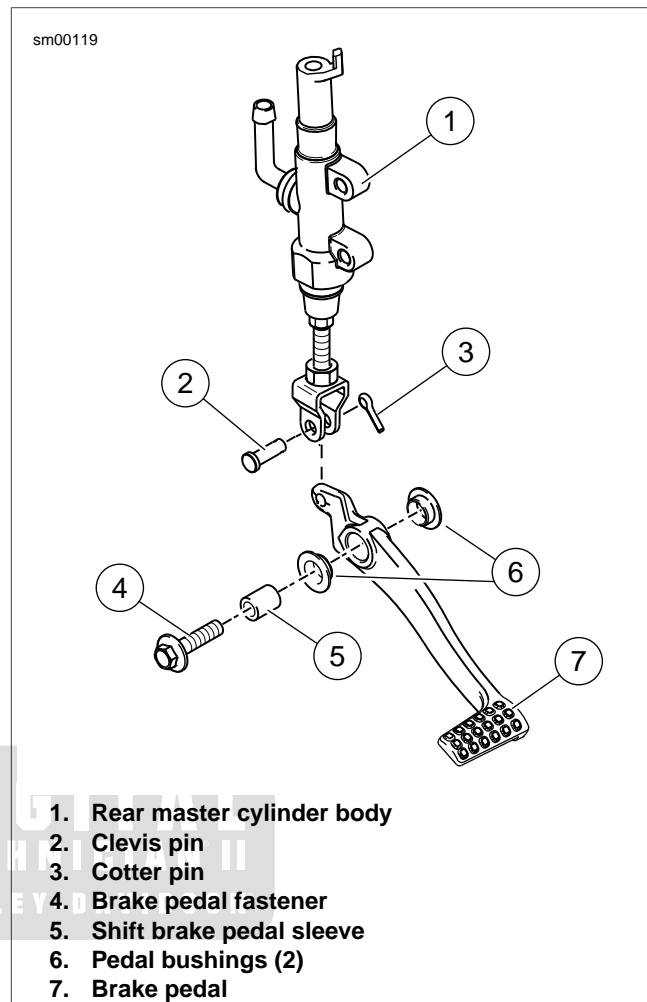

Figure 2-61. Brake Pedal Assembly
1. See Figure 2-61. Remove cotter pin (3) and discard.
2. Remove clevis pin (2).
3. Remove pedal fastener (4).
4. Remove shift brake pedal sleeve (5).
5. Remove pedal bushings (6).
6. Remove brake pedal (7).
1. See Figure 2-61. Install pedal bushings (6).
2. Install shift brake pedal sleeve (5).
3. Install brake pedal (7) using LOCTITE 271 (Red) and tighten fastener (4) to 22-24 ft-lbs (30-33 Nm).
4. Install clevis pin (2).
5. Install **new** cotter pin (3).